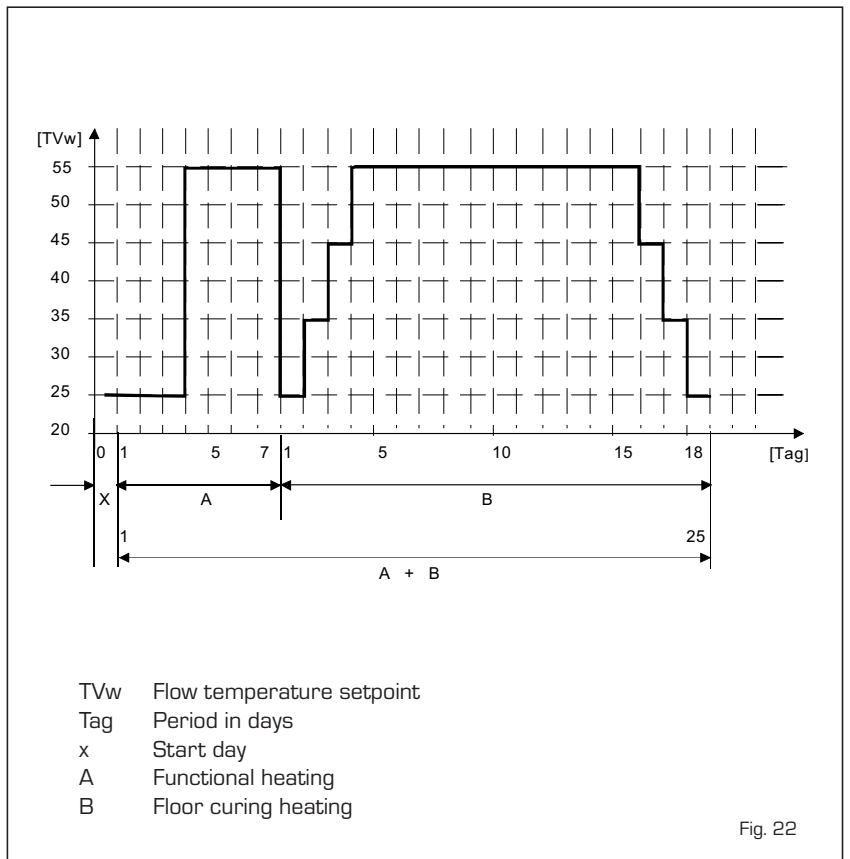

Fig. 22
4.5.2 Operation floor drying (fig. 22)
During the functioning the display shows the remaining days for the completion of the function (example mains digits -15 = 15 days lack to the end of the function). The diagram fig. 22 reports the development of the curve.